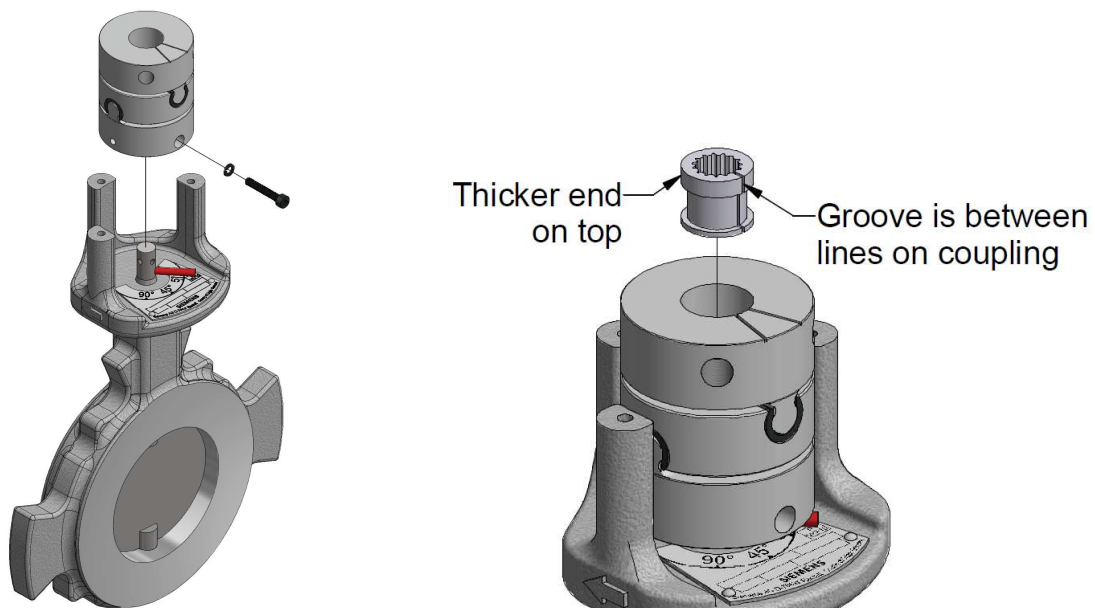

Figure 2: Coupling Installation
2. Slide the coupling assembly over the VKF10/11 valve shaft in the orientation shown on the left side of Figure 2. Line up the counterbored hole in the coupling with the threaded hole in the valve shaft. Using the 3mm hex key, the M4 split lock washer, and the M4 x 25mm socket head cap screw, fasten the coupling assembly to the valve. Note that the socket head cap screw will cut very minor threads into the back side of the coupling. This is intentional to ensure alignment between the valve and coupling. Then, place the coupling bushing into the bore in the top of the coupling. Ensure that the thicker end of the bushing is on top, and that the groove in the bushing is between the two lines on the top of the coupling.